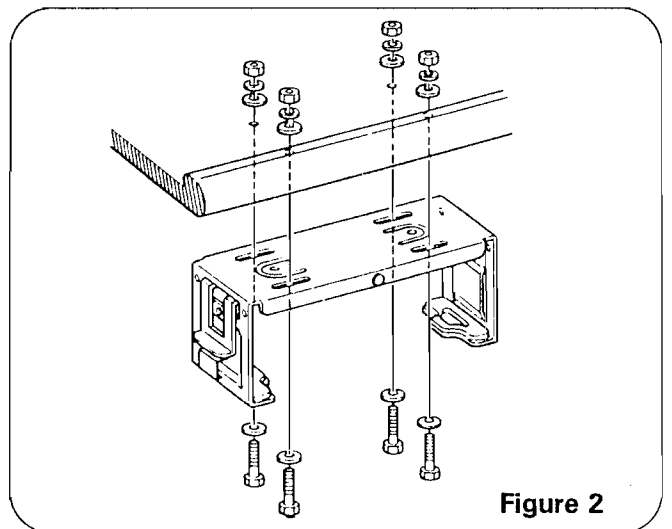

Figure 2
① For use of M5 hexagonal head bolts, make holes of 5.2- 5.5 mm diameter by a drill. Or, for use of M5 tapping screws, make holes of 4.0-4.3 mm diameter.
② Attach the bracket to the car body as shown in Figure 2.